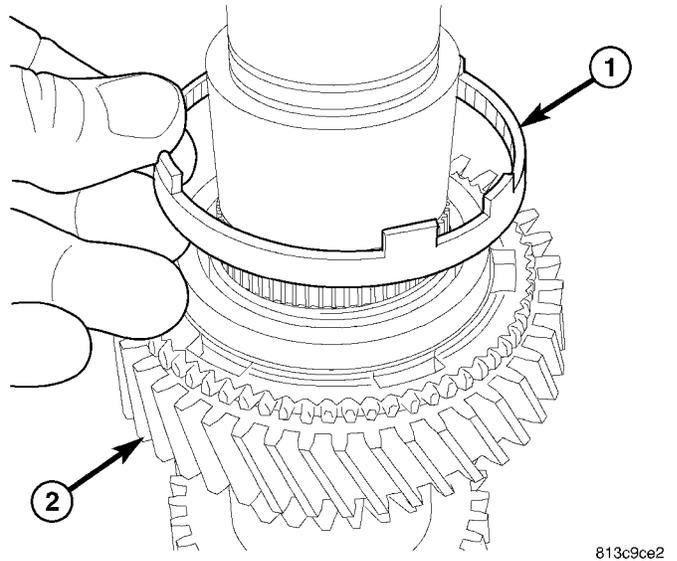

Fig. 60 2ND INNER FRICTION RING
(4) Install inner synchronizer friction ring (1) (Fig. 60) on second gear (2).